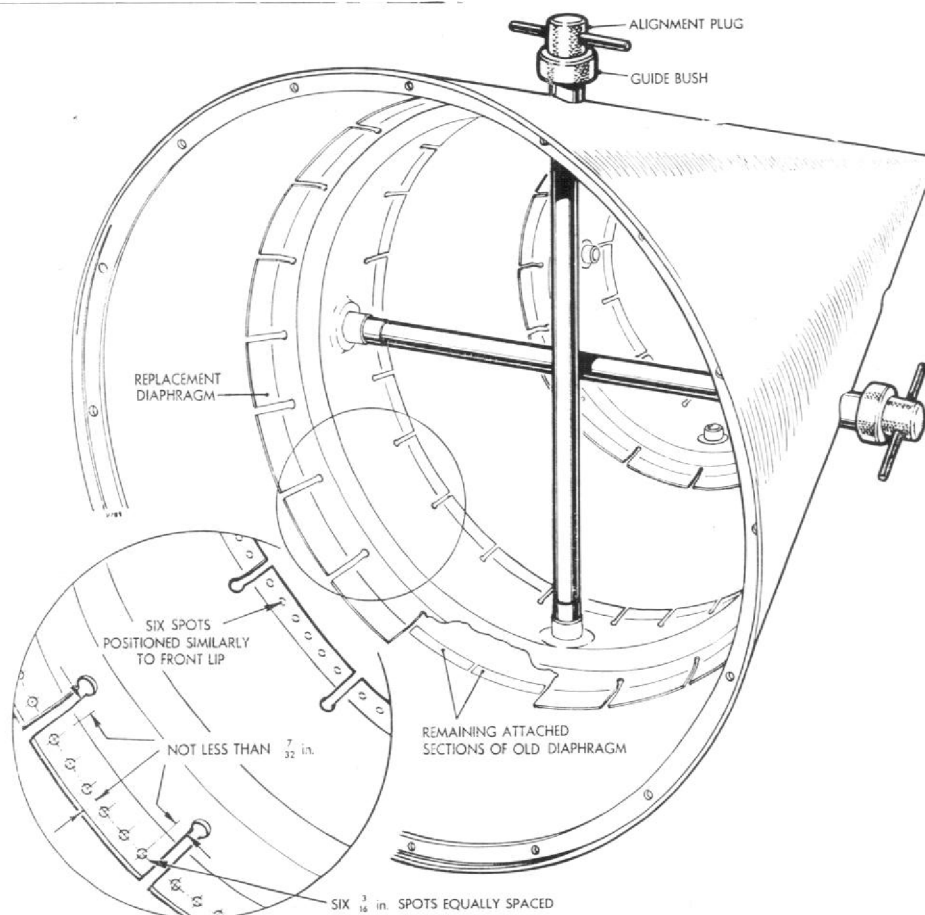

Fig. 8. Replacement front diaphragm positioned in inner cone.
2. Using a portable rotary grinder, reduce the remaining attached portions of each of the flanges, Fig. 8, sufficiently to ensure that none